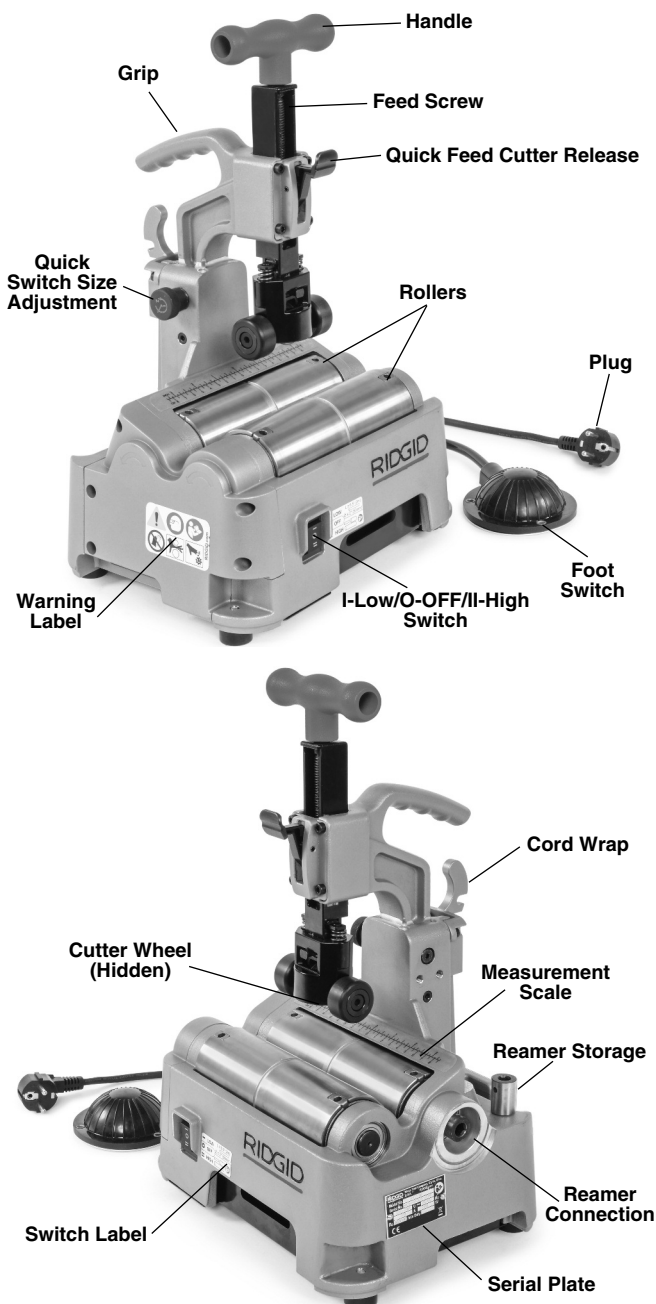

Figure 1 – RIDGID® PC116 Power Tubing Cutter
- Presence and readability of the warning and other labels (*See Figure 1*).